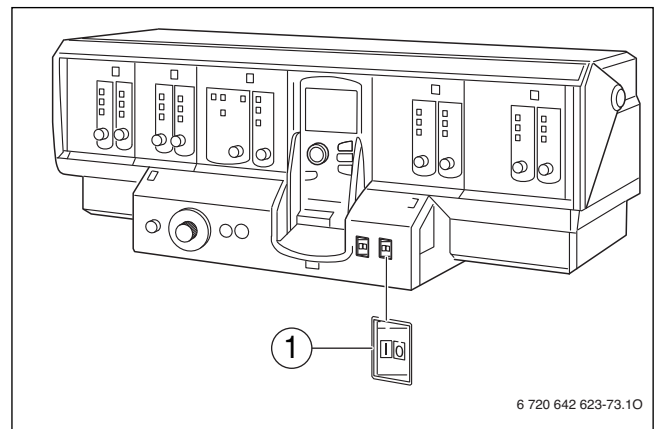

Fig. 59 Example showing Logamatic 4311
- ▶ Put the main power switch (→ Fig. 59, [1]) on the control panel in position "0".